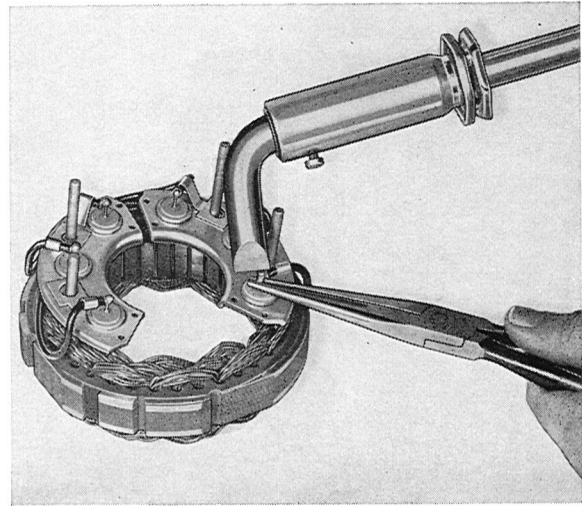

Fig. 3-15. Soldering diodes
3. Solder on the diodes, see Fig. 3-15.